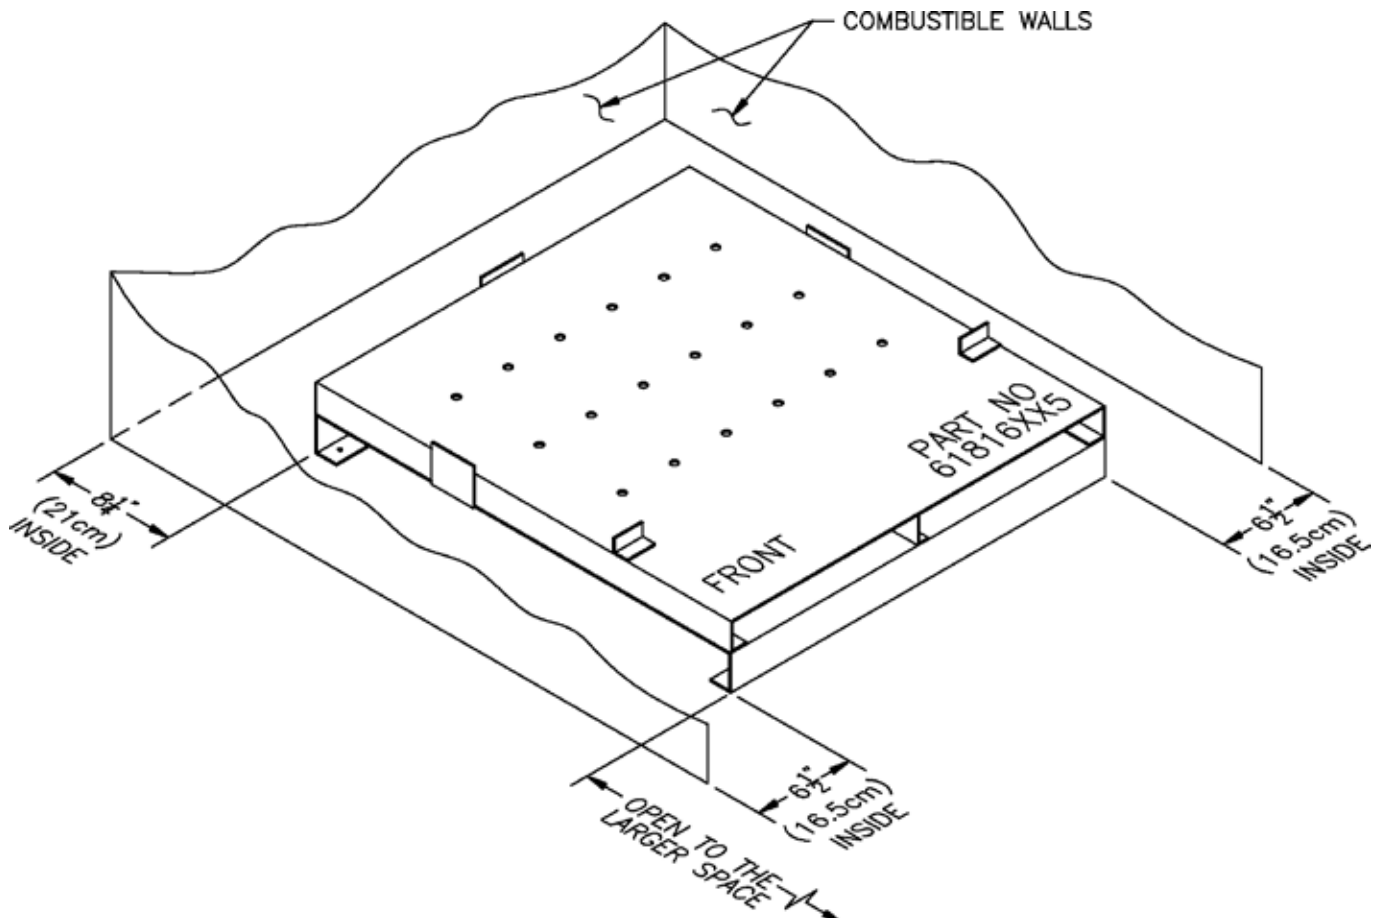

Figure 4: Installation of Special Base for Combustible Flooring
E. Install special base if installation is on combustible flooring. See Figure 4. Floor shield adds $4\frac{3}{4}$ " to boiler height.
- Locate special base with spacing to combustible materials as shown in Figure 4.
- Do not enclose boiler (including special base) on all four sides. Models 805H - 807H may be enclosed on three sides (alcove) while maintaining clearances shown in Figure 4.